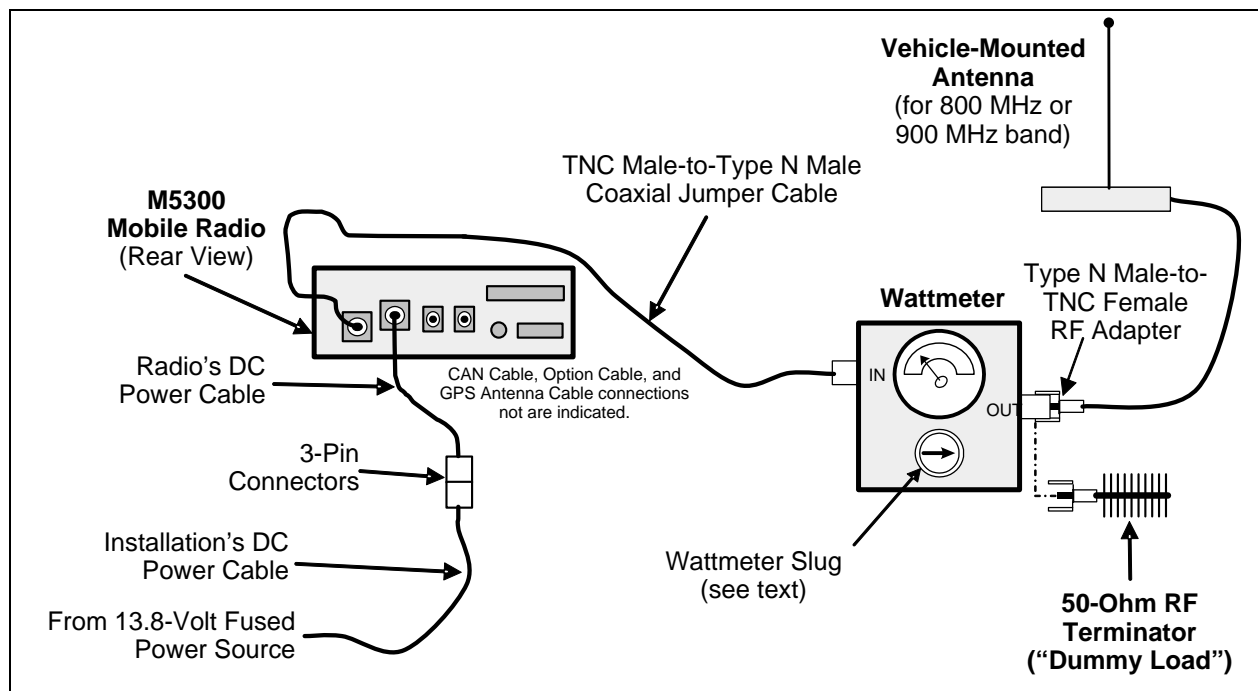

Figure 15-1: Wattmeter Connections for Antenna System Tests
- Using the Type N male to TNC male RF coaxial jumper cable, connect the radio's antenna connector to the wattmeter's input connector. Refer to Figure 15-1 as necessary.
1. Connect the antenna cable from the vehicle-mounted antenna to the wattmeter as shown in Figure 15-1.